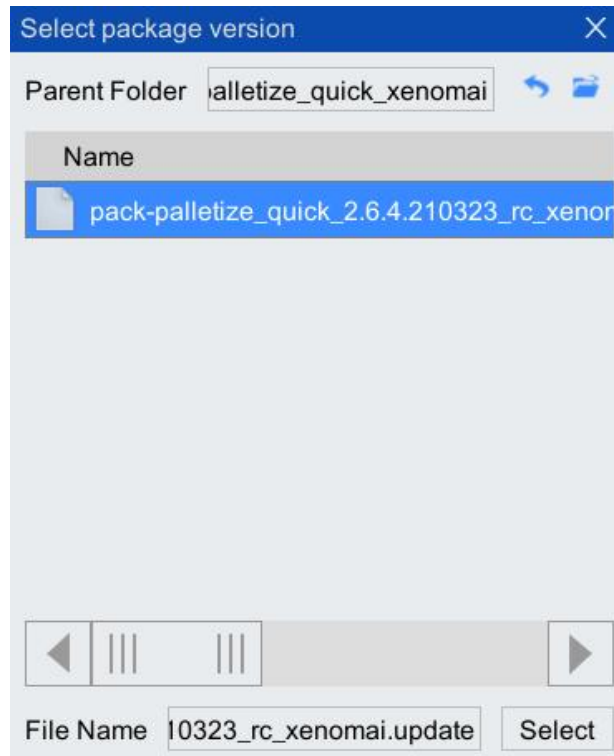

Figure 2-4 Installation package selection interface
Step6. Double click the "USB" folder, find the installation file of the convenient palletizing package under the USB folder, enter the interface shown in Figure 2-4, and then click the <Select> button.